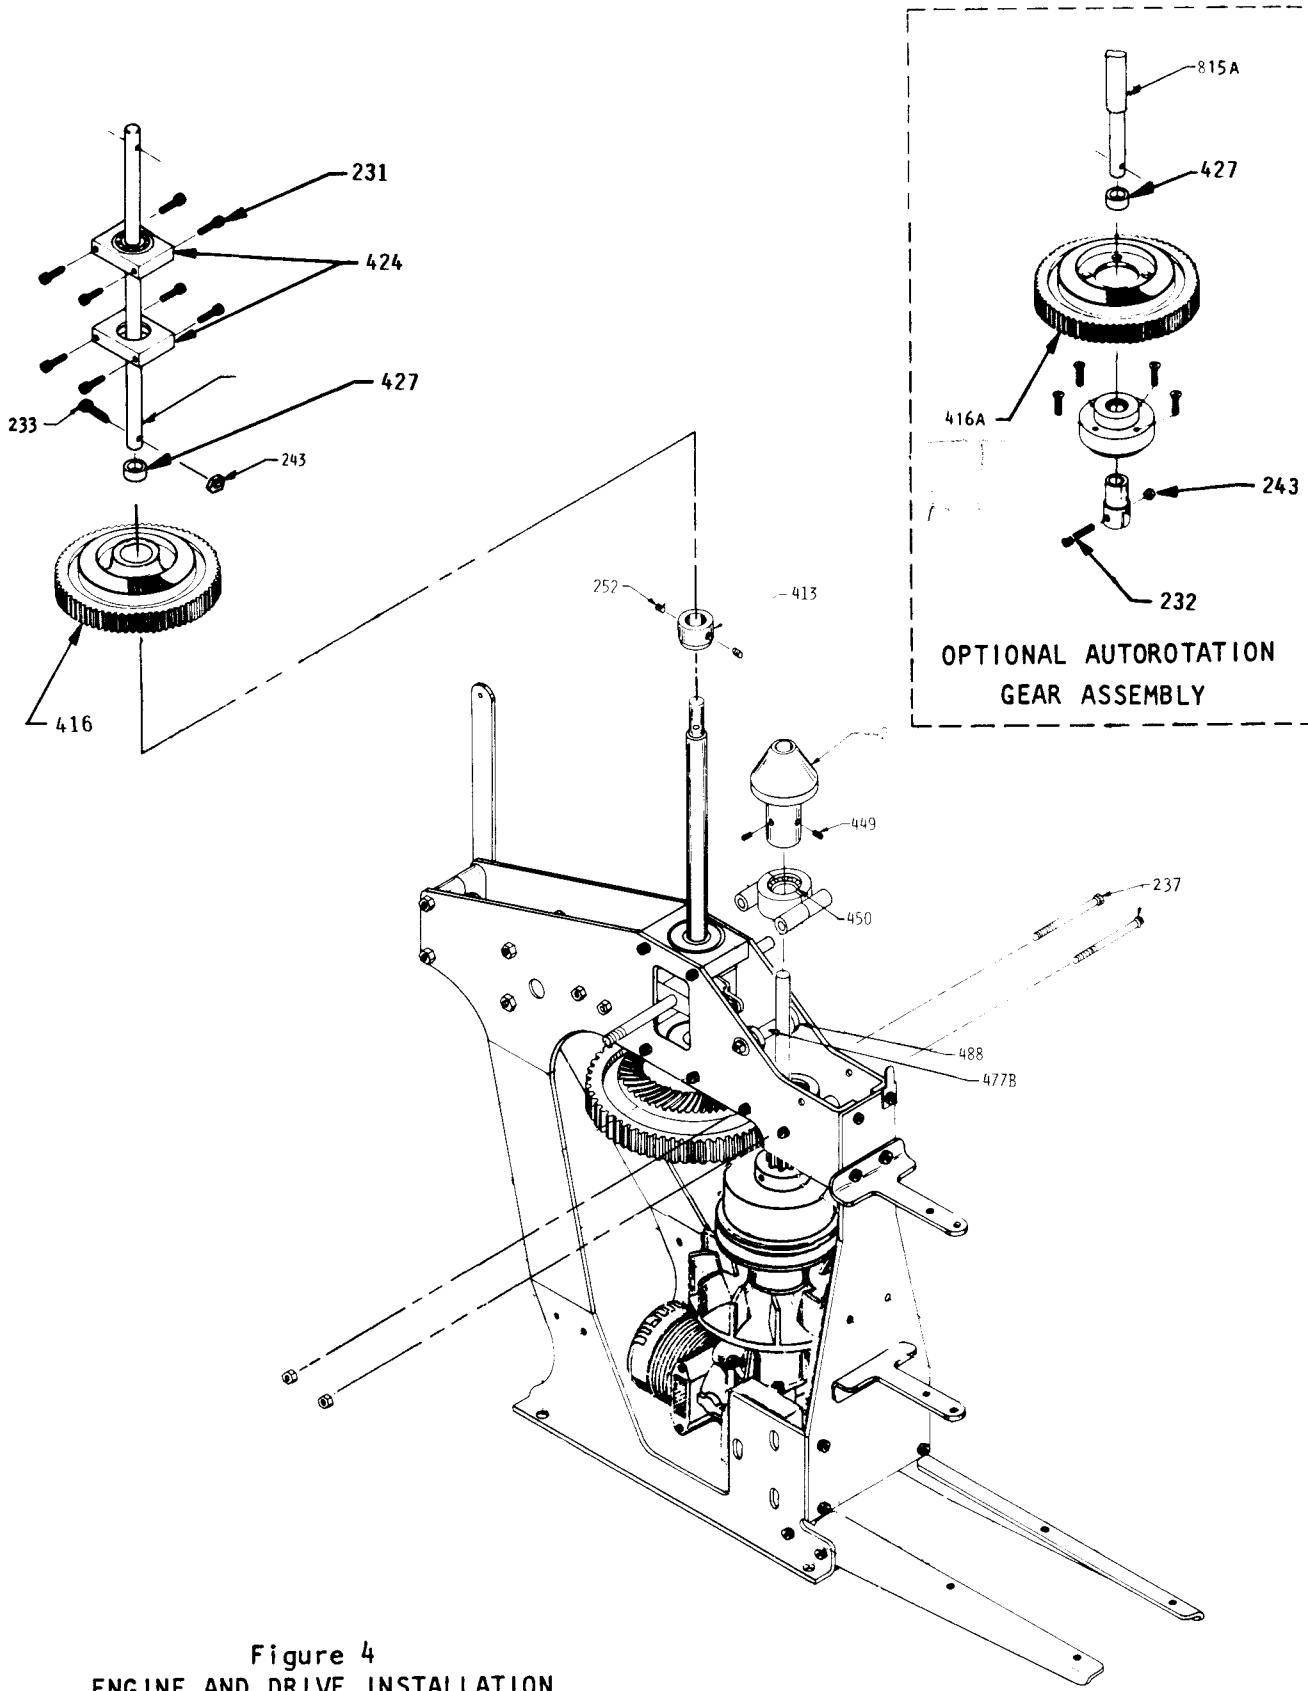

Figure 4
STEP 4 ENGINE AND MAIN DRIVE INSTALLATION - see Figure 4
STEP 4A ENGINE AND MAIN DRIVE INSTALLATION - continued - see Figure 4